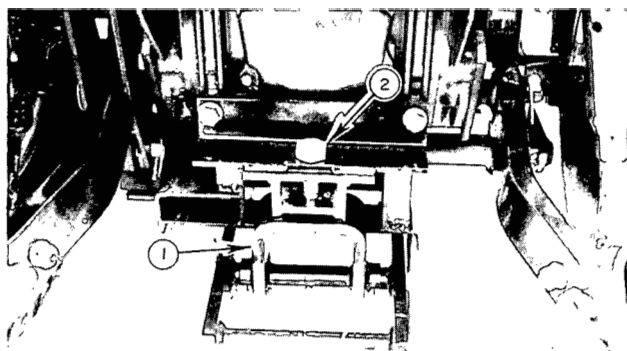

FIGURE 7
- a) Install rear hitch bracket (fig.7, item 1) under the tractor drawbar, using a 3/4" x 3 3/4" bolt (fig.7, item 2), lockwasher and nut. Tighten lightly.